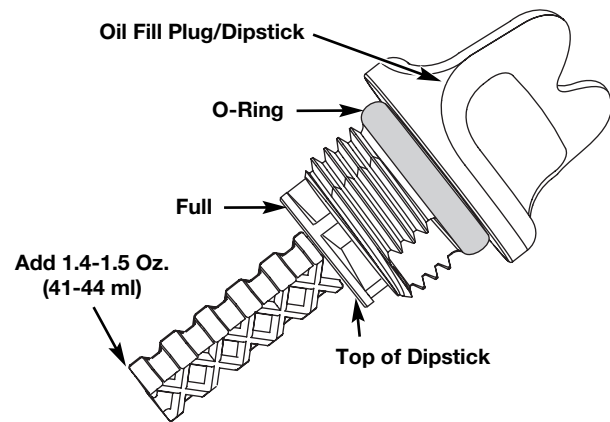

Fig. 24
5. Remove the oil fill plug/dipstick and check the oil level. Oil should be up to the top of the dipstick (Fig. 24).